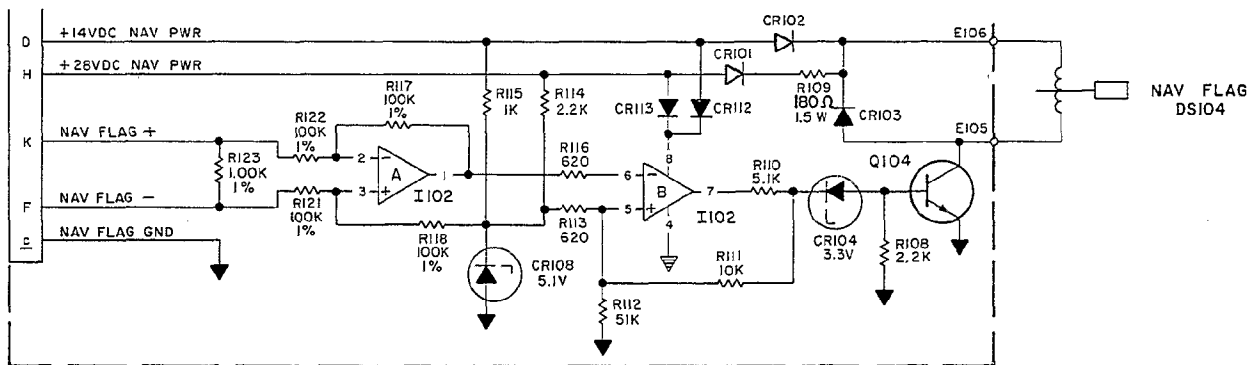

FIGURE 4-7 NAV FLAG CIRCUITRY
4.4 NAV FLAG CIRCUIT (Figure 4-7)